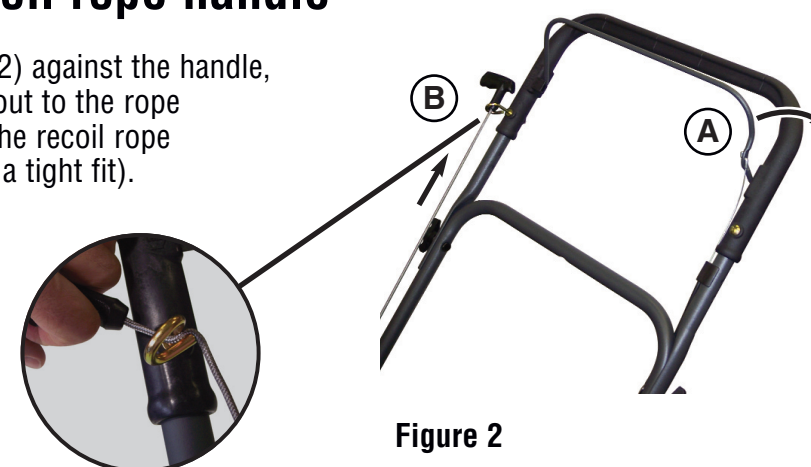

Figure 2
- Hold the bail control (A, Figure 2) against the handle, and pull the recoil rope handle out to the rope guide (B) on the handle. Hook the recoil rope into the rope guide (it might be a tight fit).